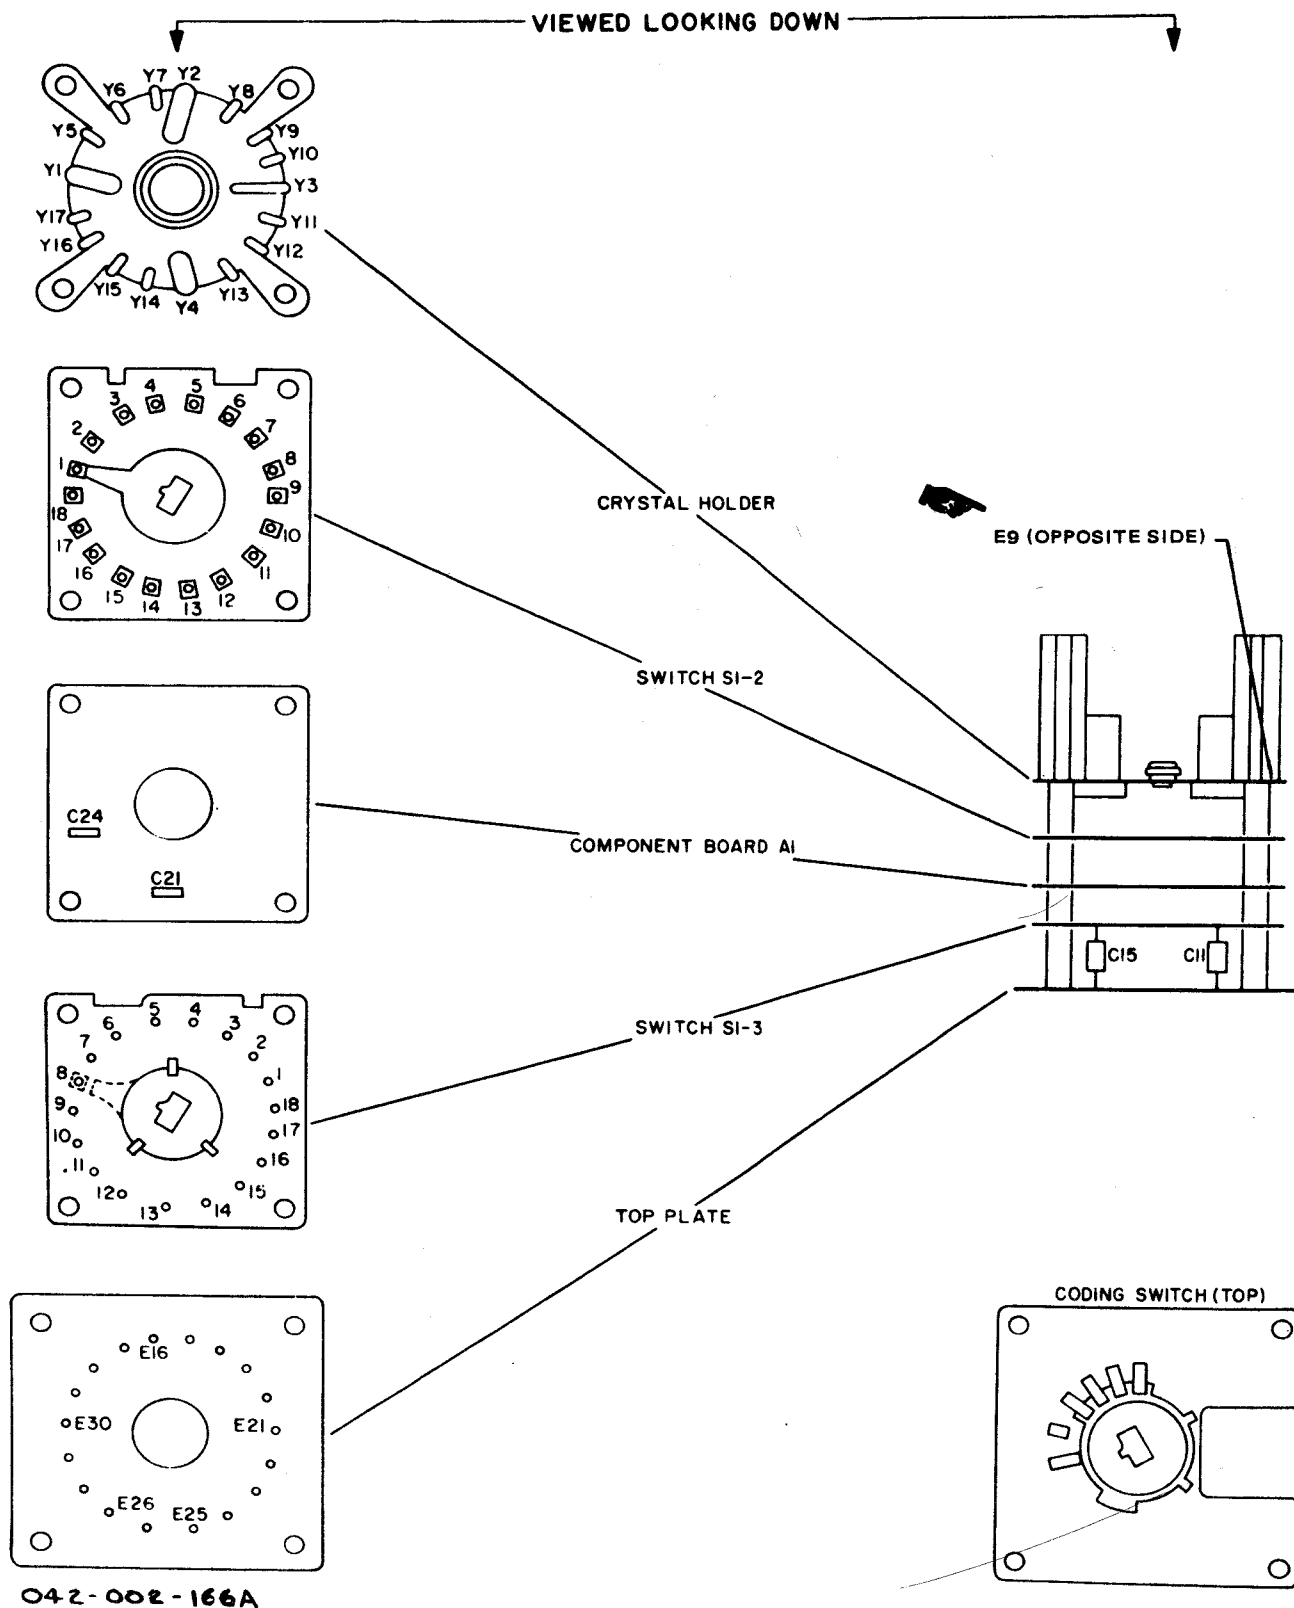

Figure 6-12. 1-MHz Synthesizer Subassembly A2A6A1, Crystal Switch Assembly, Component Orientation
6-54. To disassemble the crystal switch assembly, proceed as follows (see figure 6-12):
a. Ensure that crystal assembly components are oriented as shown in figure 6-12.